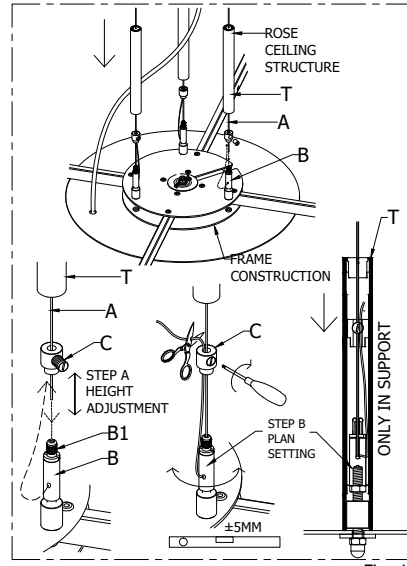
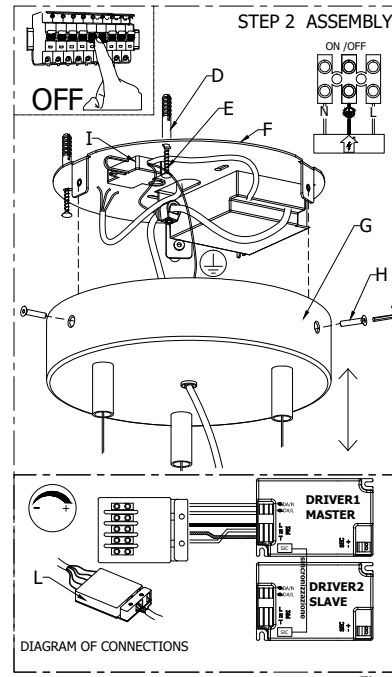

Fig. 1
Fig. 2
- Assemble the steel cables of the ceiling rose to the frame.(FIG. 1)
-Insert the steel cables (A) into the grippers (B).
Step B: adjust by screwing or unscrewing the gripper (B), ± 5MM so that the frame remains level (FIG.1)
- Rest the details (T), to the structure.
- Fix the bracket (F) with screw (E) and dowels (D) on the ceiling.(FIG.2)
-ON -OFF VERSION Connect the network cable into the driver (F) according to the polarity.(FIG.2)
-DIMMABLE VERSION Connect the network cable into the terminal (L) according to the polarity.
- Lift the frame and fix the canopy (G), screw the screws to the bracket (F).(FIG.2)